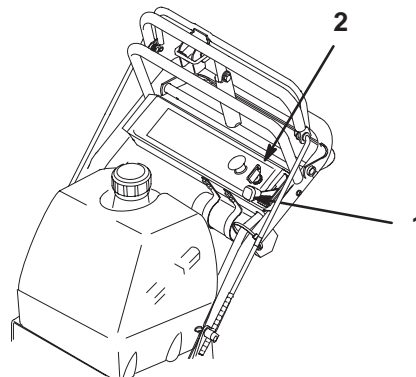

Figure 15
1. Move the throttle lever to slow (Fig. 15).
3. Turn the ignition key to off (Fig. 15).